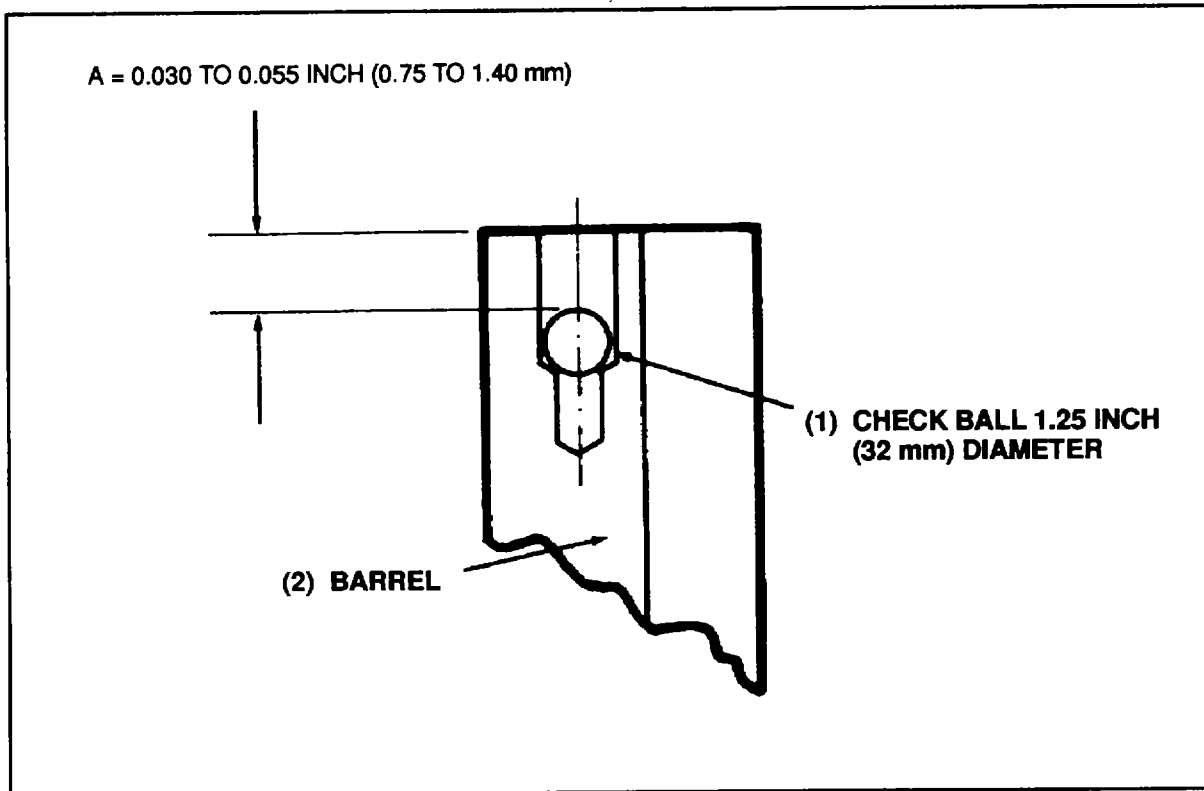

Figure 6-23. Checking Check Ball Seat Depth
- (2) Check the plunger (3) surface for signs of seizure, scoring, and wear ridges. The surface should show no signs of wear or scoring.
- (3) Check the plunger (3) spring seat for wear or cracks. The spring seat should show no cracks or signs of wear.
- (4) Inspect the bore of the barrel (15) using a four power magnifying glass. The bore should show no signs of wear or scoring.
- (5) Using a four power magnifying glass, inspect the check ball seat in the barrel (15) for burrs and wear. The seat should show no signs of burrs or wear.
- (6) See Figure 6-23. Install a check ball (1) in the barrel (2), and check the depth of the check ball seat by measuring A. Measurement of A must be 0.030 to 0.055 inch (0.76 to 1.40 mm). Replace the check ball (1) or the barrel (2), or both, as necessary to achieve the required depth.